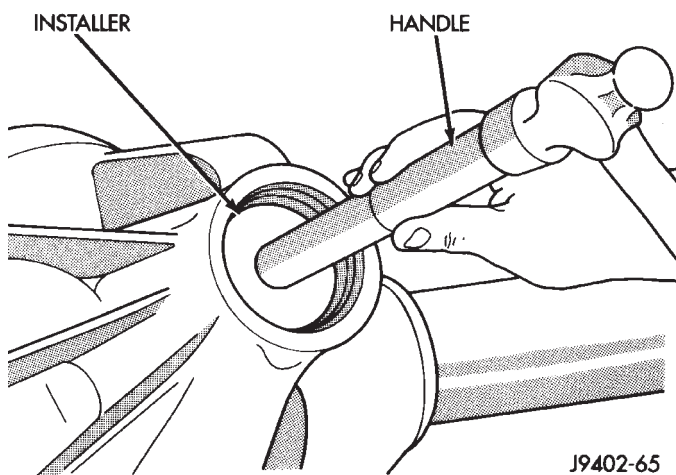

Fig. 31 Pinion Front Bearing Cup Installation
(2) Install the pinion front bearing cup with Installer D-129 and Handle C-4171 (Fig. 31).